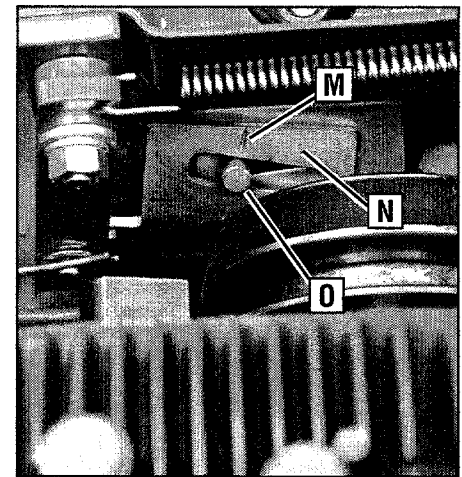
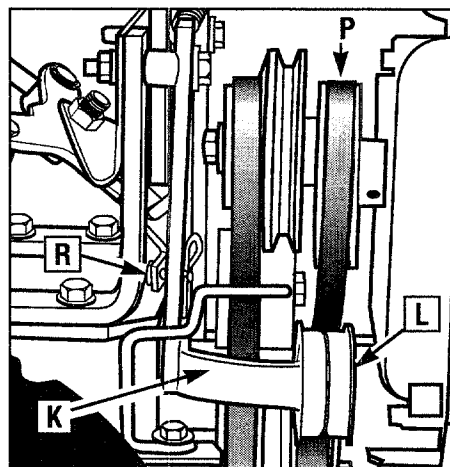

Figure 5-14: While pushing reverse idler arm inward, stand at engine end and check position of guide mark (M) and guide pin (O).
Figure 5-13: Reverse idler arm (K) and reverse pulley (L).
2. Stand at the front of the tiller and use your left hand to push the reverse idler arm (K, Figure 5-13) inward as far as possible (the reverse idler pulley [L] is attached to the reverse idler arm). Hold the idler arm in this position and look at the position of the belt tension guide mark (M, Figure 5-14) that is stamped into the face of the reverse adjustable link (N, Figure 5-14).
- The belt tension is correct if the guide mark (M, Figure 5-14) is anywhere to the left of the guide pin (O), as viewed from the front of the unit (not the operator's position). If the belt tension is correct, **reinstall the belt cover and secure it with the two nuts.**
3. The reverse idler pulley (L, Figure 5-13) regulates the tension that is applied to the reverse drive belt (P). The following adjustment will allow the reverse idler pulley to apply more tension to a loose belt.
5. Slip the reverse belt (P, Figure 5-13) off the engine driven reverse (upper) pulley.
6. On the **right** side of the unit (as viewed from operator's position) remove the hairpin cotter from the clevis pin (R, Figure 5-13) that connects the reverse idler arm (K) to the reverse adjustable link. Push inward on the reverse idler arm (K) and remove the clevis pin (R).
8. Reinstall the reverse belt (P, Figure 5-13) on the reverse (upper) pulley, making sure the belt is located to the inside of the reverse idler pulley (L, Figure 5-13).